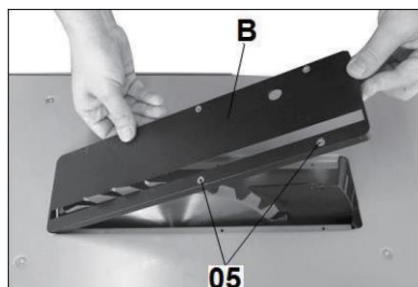

Fig. 8
Position the table insert into the Table top, and lock with 4 screws (05) Fig. 8.